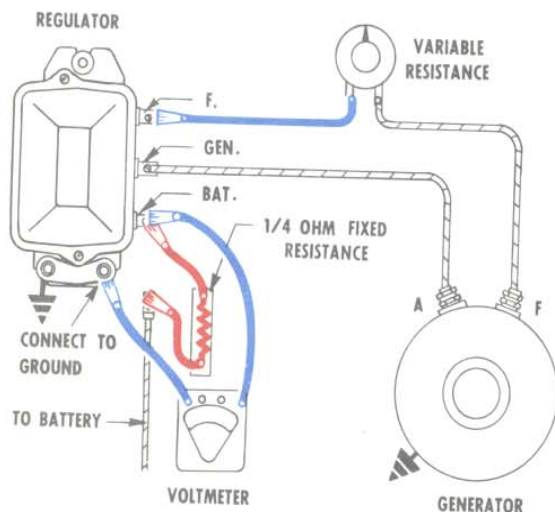

Figure 6—Fixed resistance and volt meter connections to check voltage regulator settings. Variable resistance used to control and cycle the generator.
1. To properly check voltage regulator, the battery must be fully charged. Otherwise, insert a $\frac{1}{4}$ ohm fixed resistor (not less than 25 watts) into the charging circuit at "BAT" terminal of regulator (in series with battery) as shown in Figure 6. This limits the current flow to the battery to less than 10 amperes.